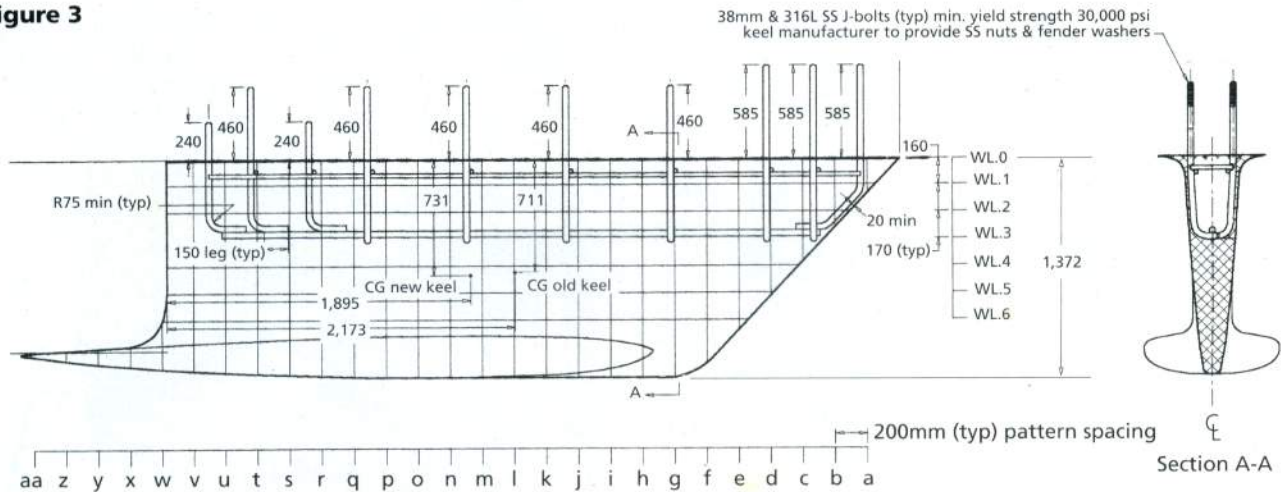

**Figure 2**
The term " $\sum l_i$ " is illustrated in **Figure 2**. The keelbolts should be arranged in two to three rows along the top of the keel and as far outboard as practical, usually within 1" (25mm) of the keel's side surface. The distance " $l_i$ " is calculated for each
**Right**—At Hodgdon Yachts in East Boothbay, Maine, a crew member works on joining the keel of Scheherazade—a 155' (47.2m) cold-molded ketch designed by Bruce King and launched in 2003—to the hull extension. The 153,500-lb (69,626.4-kg) keel was cast by Mars Metal Company (Burlington, Ontario, Canada). **Figure 2**—The typical keelbolt arrangement pictured here illustrates that, when the boat is upright, all the bolts do the work, and they all do something to resist grounding loads. In a heeled condition, those on the centerline and the ones offset to one side do all the work. This schematic shows how  $\Sigma l_i$  is calculated.